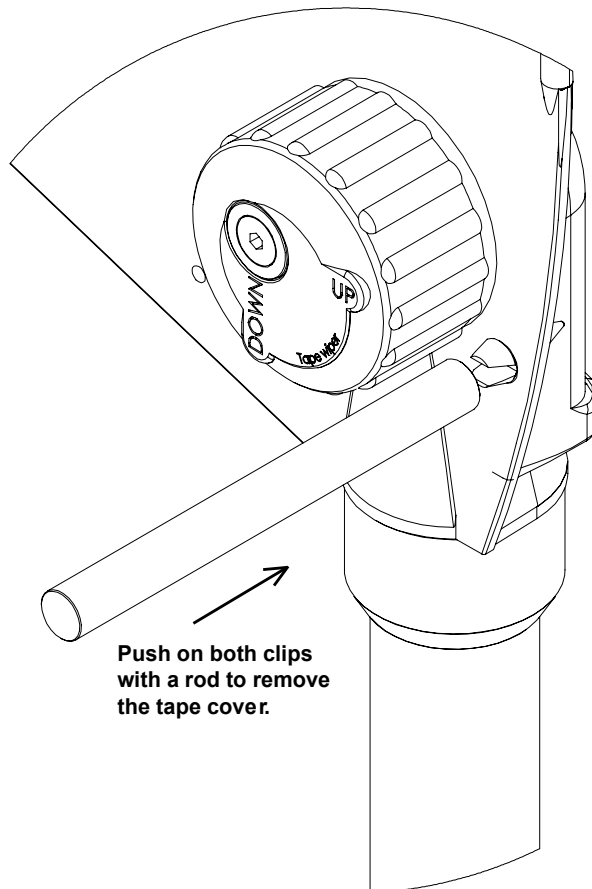

Figure 9-10
- Pull the tape cover out of the frame. Use pliers or a rod to help the clips to get out of the frame (as shown in figure 9.10)